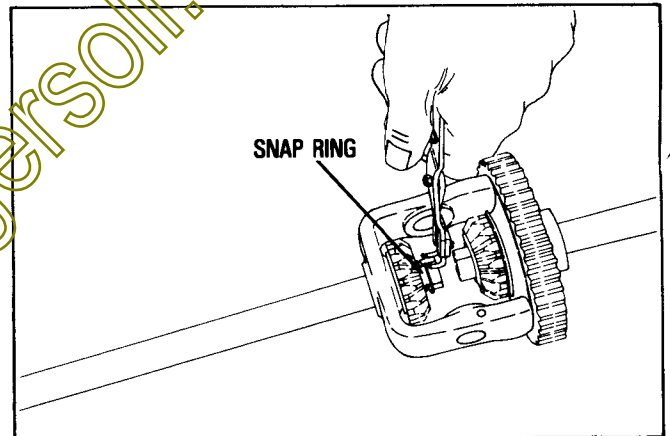

FIGURE 23
4. Remove snap ring, bevel gear and thrust washer. Slide axle out. (See Figure 23).